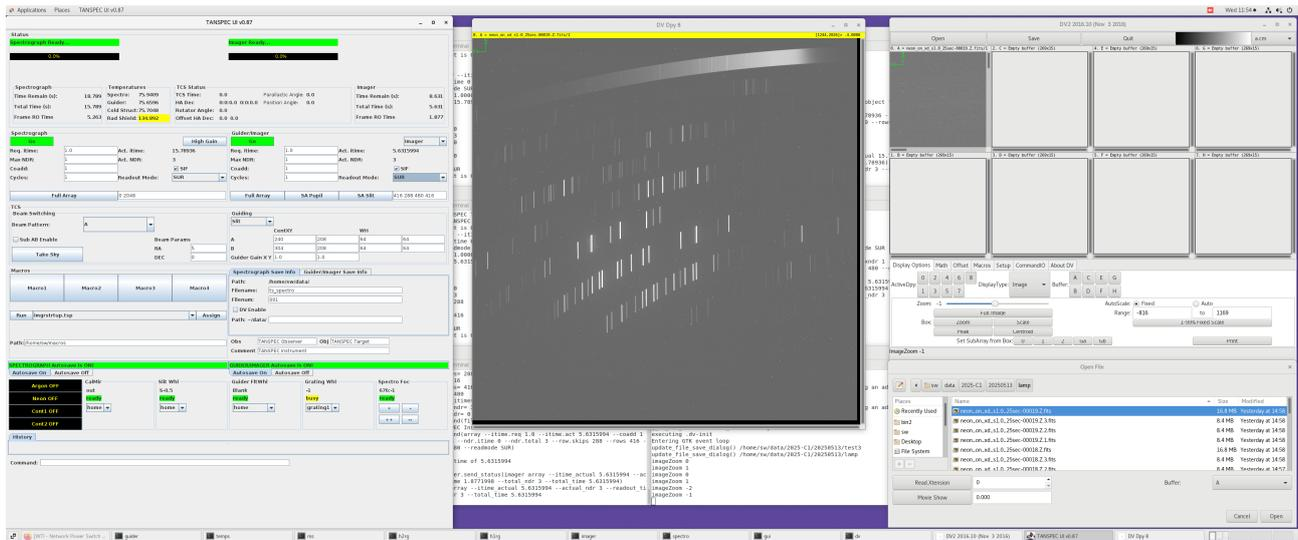

Figure 8: TANSPEC PC display after configuring both the TANSPEC GUI and DV.
Once both TANSPEC GUI and DV are configured. The PC display should be like shown in Figure 8.
- The Array readout configuration panel is shown in Figure 8. This helps us control the observation parameters.
- There are three lamps in TANSPEC. (1) Argon, (2) Neon, and (3) Continuum.
- Each of the lamps can be switched ON or OFF from the TANPSEC GUI shown in Figure 8.